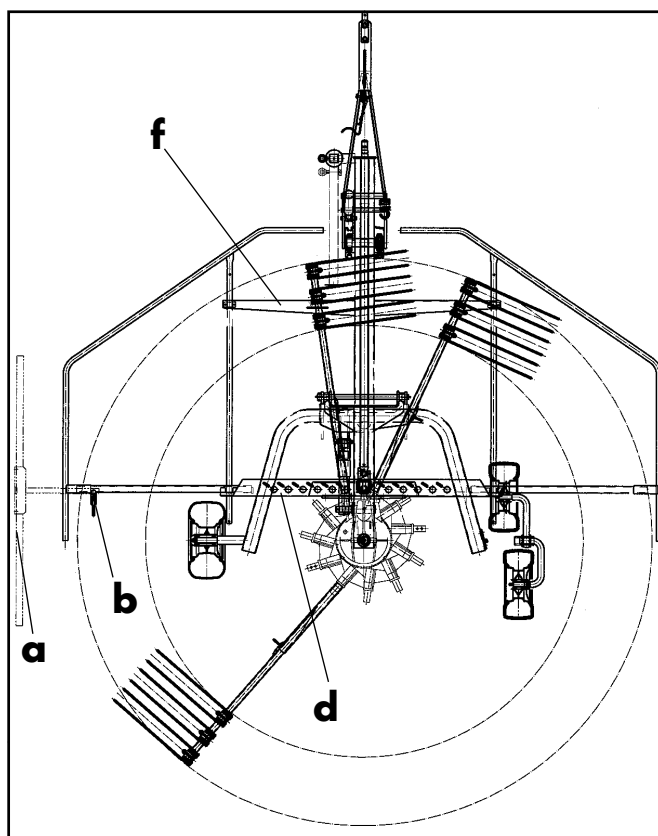

Figure 3-9
- Fold the protective yoke downwards (figure 3-9)
- Remove the swath sheet (a), turn the swath cloth upwards, insert the swath sheet and secure it with the toggle screw and the lock nut (b) (figure 3-9)
- Remove overlapping tine bars and mount them on the rear cross carrier (d) (figure 3-9)